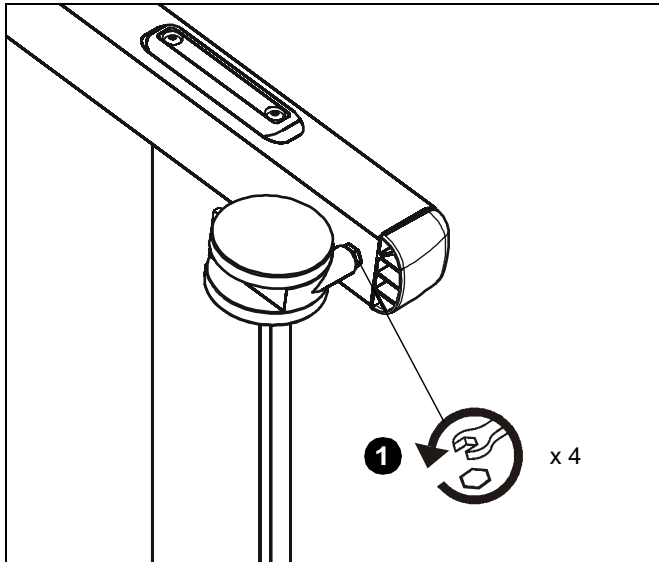

Figure 1
1. Using a wrench, loosen the bolts and remove the four casters currently installed on the cart. (See Figure 1)